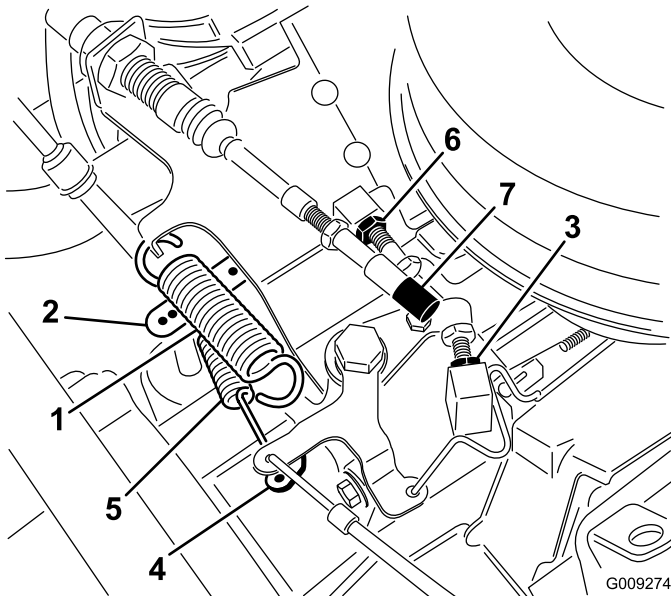

Figure 52
2. With return spring installed, hold engine governor arm toward operator's side of vehicle and adjust low idle stop to obtain a .01" – .05" gap between O.D. of hole in throttle lever and inside of governor spring hook (Figure 52).